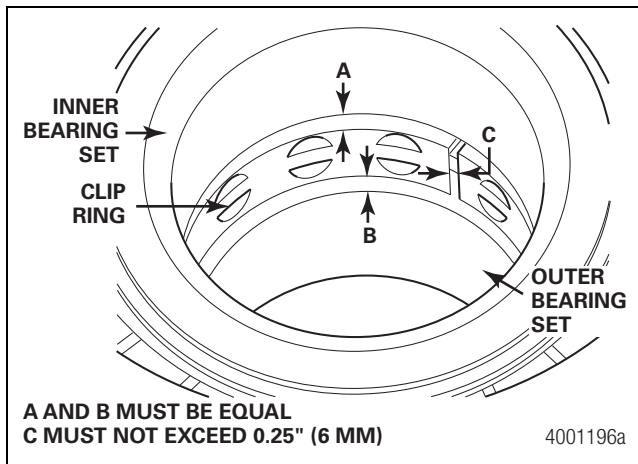

Figure 3.13
- A. The inner clip ring has not become dislodged in shipment and is in correct alignment with the inner and outer bearings. The gap between the inner and outer bearing sets and the clip ring must be equal. Figure 3.13.
- B. The gap between the ends of the clip ring must be equal and not exceed 0.25-inch (6 mm). If necessary, adjust by hand. Figure 3.13.